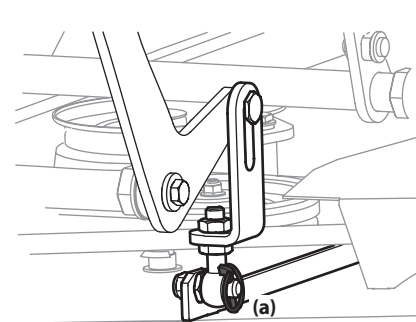

Figure 4-16
2. Reinstall the tires using the four lug nuts. See Figure 4-16. Torque the lug nuts (a) to 65-70 ft-lbs.
4. Remove the four lynch pins (a) that secure the deck to the deck lift assembly. See Figure 4-16.